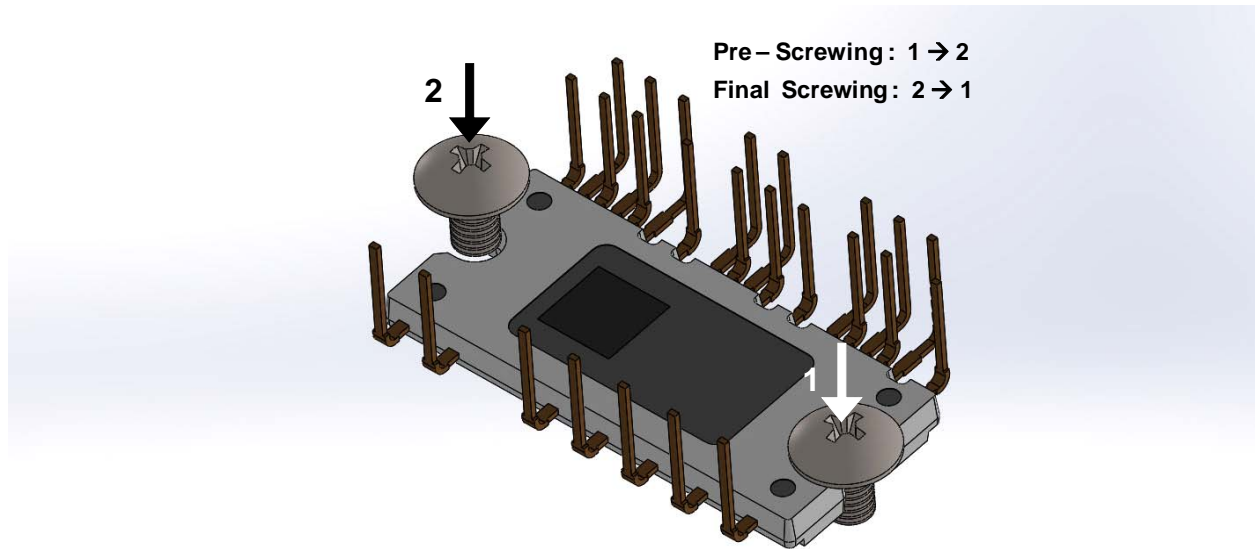

Figure 10. Mounting Screws Torque Order
10. Avoid one side tightening stress. Figure 10 shows the recommended torque order for mounting screws. Uneven mounting can cause of package to be damaged.